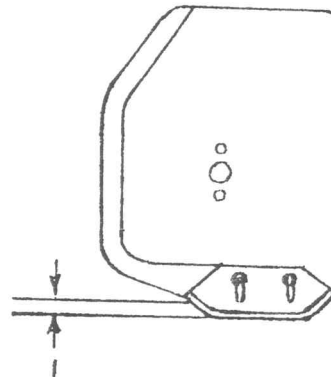

FIGURE 2
Level Paved Surface - adjust skid shoes to allow 3/16 to 1/4" clearance (fig. 2, item 1) between cutting edge and surface.
Uneven or Gravel Surface - adjust skid shoes to allow 1/2 to 5/8" clearance (fig.2, item 1) between cutting edge and surface.